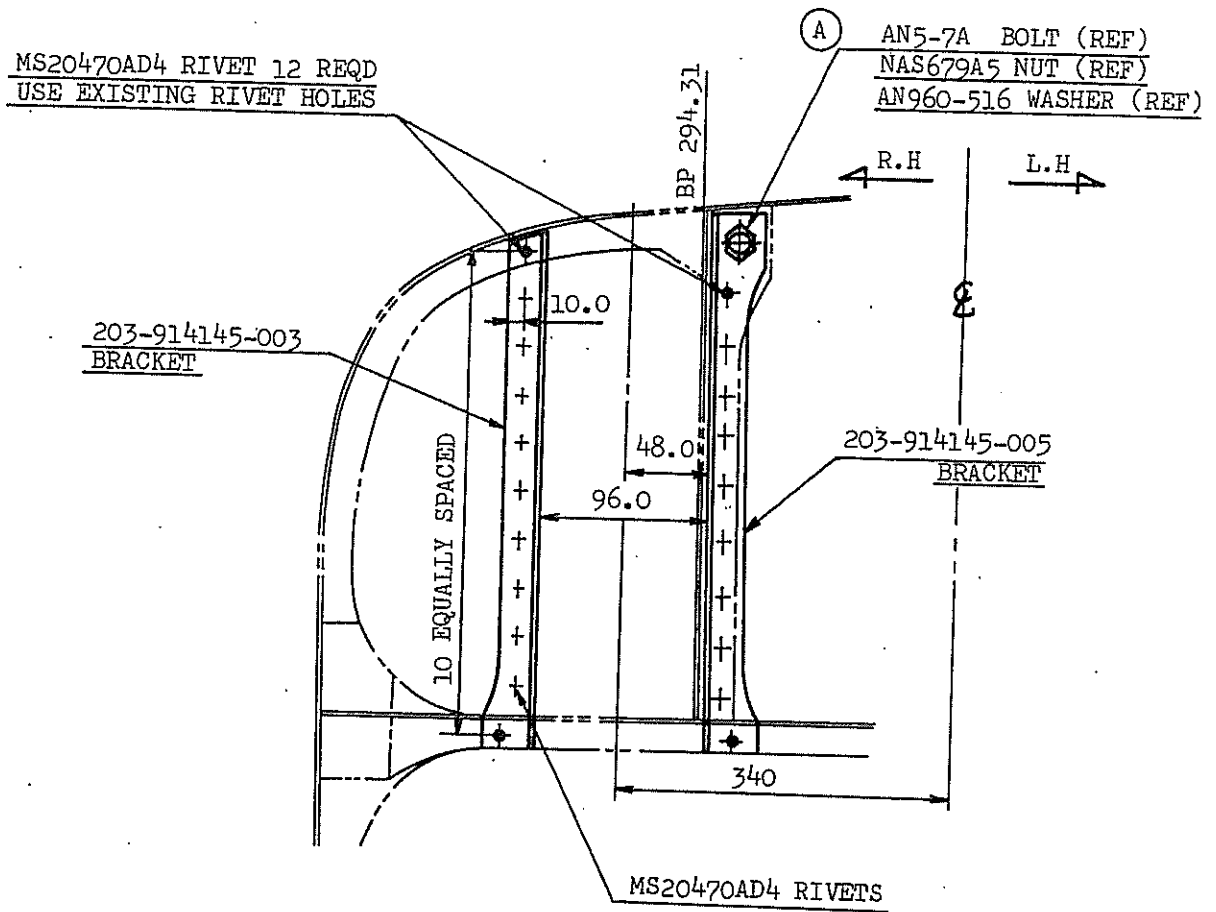

FIGURE 1. INSTALLATION OF BRACKETS ON FIRE WALL
- (1) Remove the upper cowling in accordance with Service Manual, para. 4-3-1.
- (2) Remove the co-pilot seat in accordance with Service Manual, para. 7-7-1.
- (3) Modify the front side of the firewall as shown in Figure 1. Remove insulation sufficiently to obtain access to the work area. Remove bolt (A), AN5-7A, and reinstall the bolt to secure the bracket, 203-914145-005.